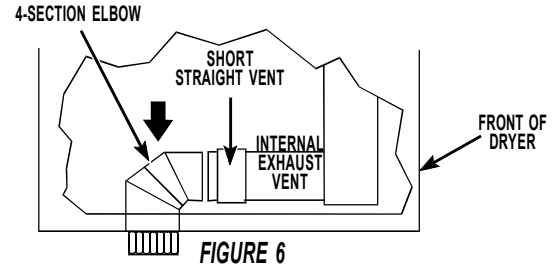

FIGURE 6
- Put the elbow into the dryer through the rear exhaust opening. Put the male end of the elbow through the bottom exhaust opening. See Figure 6.